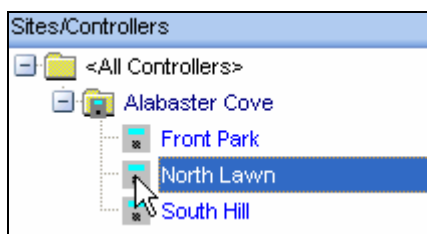

Figure 4.5.3
3. Highlight the controller from the list that you want to print (Figure 4.5.3).